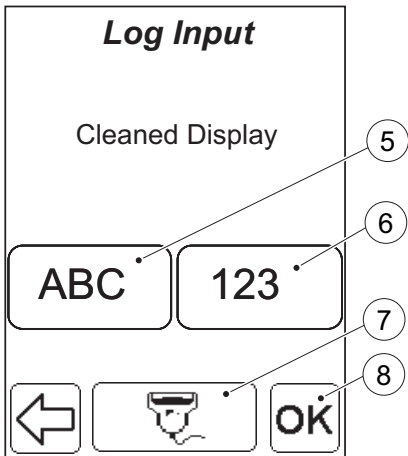

FIGURE 7-25
- Press the Scroll bar arrows (3) to select either a log note (2), or the Free Text option (1).
- Press the Add button (4)
- If a log note was selected, it will be added to the Analyzer Log and *FIGURE 7-4* will be displayed. If the Free Text option (1) was selected *FIGURE 7-25* will be displayed.